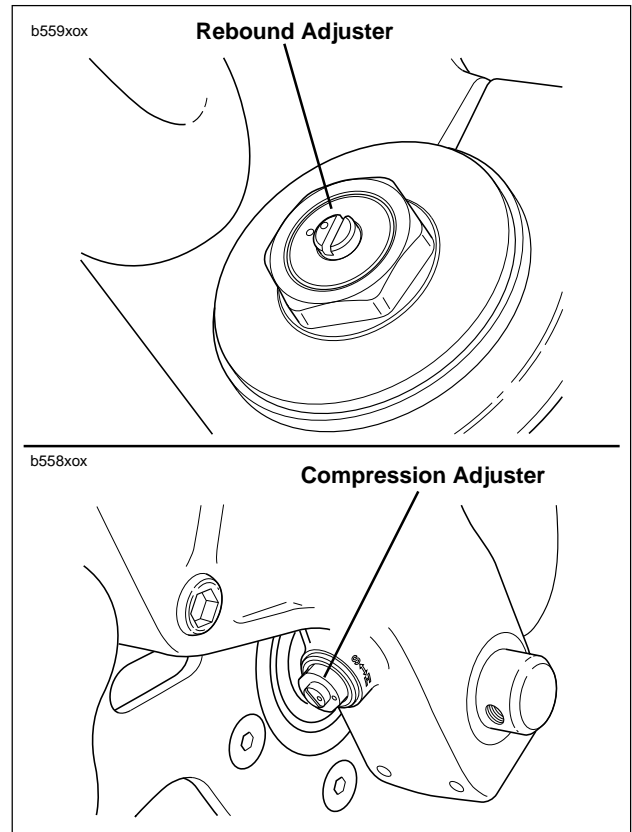

Figure 1-33. Front Forks
- See Figure 1-33. Factory setting = maximum damping minus 1 turn.
- See Figure 1-33. Factory setting = maximum damping minus 2.5 turns.